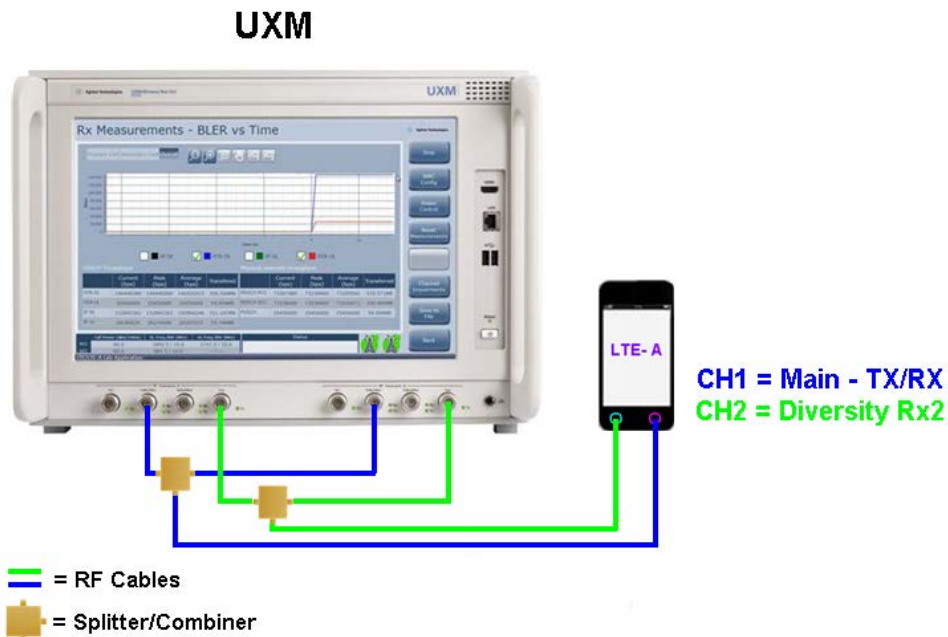

Figure 8-1: Carrier Aggregation Test Setup
2. Make all connections as shown in Figure 8-1 above.